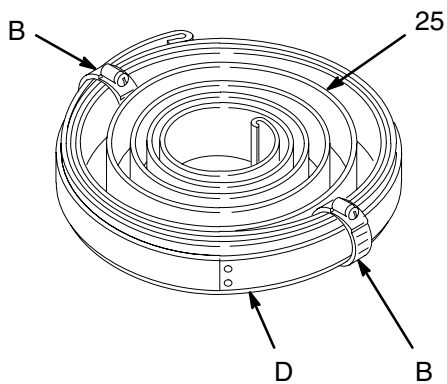

Fig. 20
17. *Before disposing of the spring,* carefully attach a minimum of two hose clamps (B) around the keeper (D) and spring (25) bands as shown in Fig. 20.